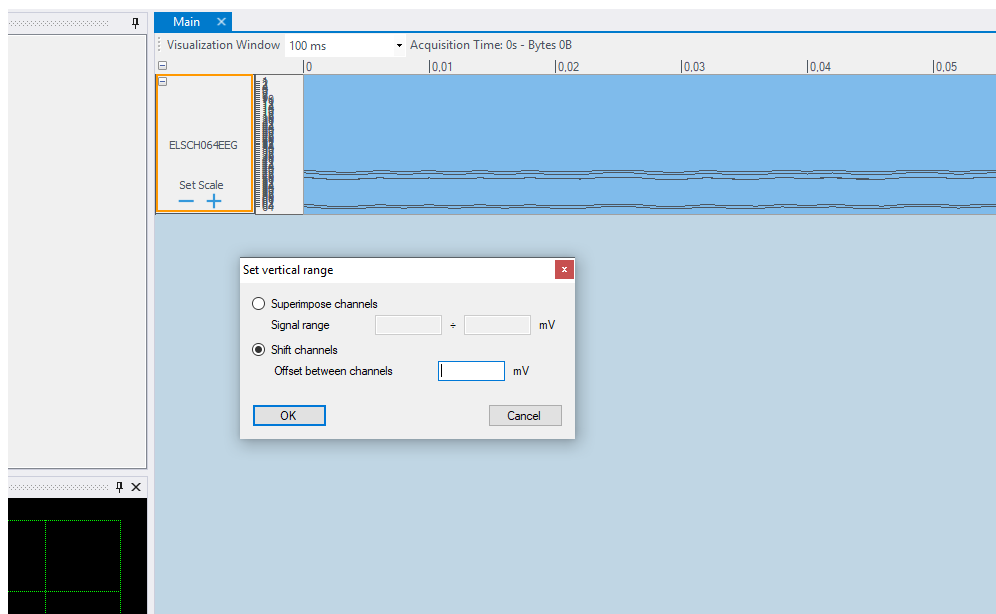

Fig. 8.23: Set vertical range options.
- Set vertical range: allows to define the vertical display scale, you can choose between the display of the individual channels spaced by a certain offset, to be set in mV and the display of the channels overlapped each other by setting the minimum and maximum value displayed, see figure 8.23.